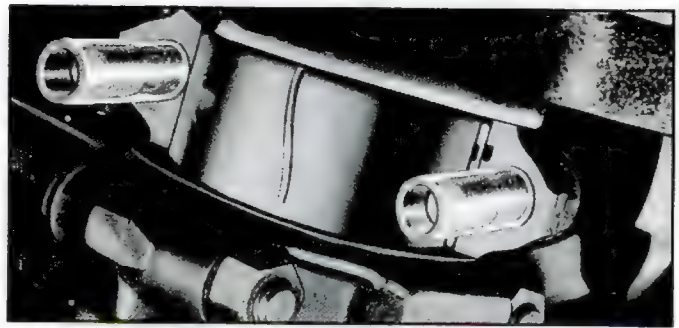

Fig. 123—Gauging Plastic on Crankpin
- Place a piece of Plastigage or its equivalent the full width of the bearing or crankpin, parallel to the crankshaft (fig. 123).